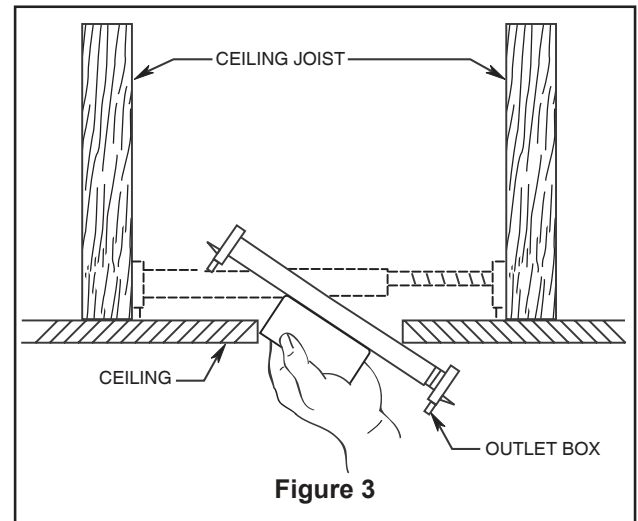

Figure 3
Your new ceiling fan will require a grounded electrical supply line of 120 volts AC, 60 HZ, 15 Amp Circuit. Electrical code requires use of a fan-rated outlet box to support the extra weight and motion associated with a ceiling fan. A fan-rated box will be labeled as such and typically supports up to a 70lb ceiling fan. Fan-Rated Outlet Boxes vary in ratings and design. Ensure the ratings of your ceiling fan outlet box meet the requirements for the ceiling fan being installed. Figure 1, Figure 2 and Figure 3 depicts different structural configurations that may be used for mounting the outlet box.
Deep box with brace (Figure 3)
3. Loosen the two set screws in the downrod support of the motor assembly. Route the black, white and blue wires through the downrod. (Figure 3)
1. Securely attach the hanger bracket to the outlet box (not included) using the outlet box screws and washers supplied with the outlet box. (Figure 3)
- ☐ 3. Secure the blade holders to the bottom of the motor assembly using the 1/4"-20 screws from the hardware bag. (Figure 3)